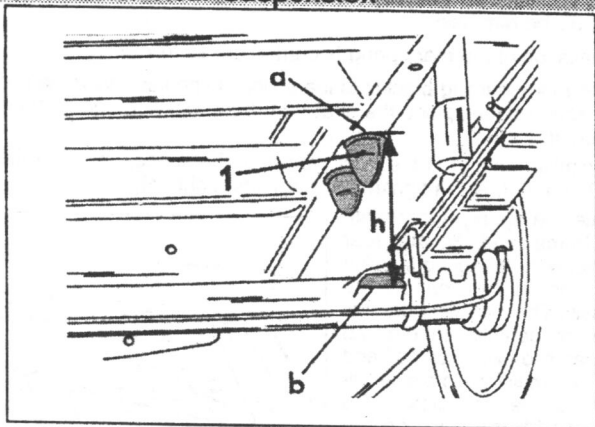

Fig. 7.6. — The rebound rubber (1) is used to measure the height of the rear axle when tightening the springs. Measure between points "a" and "b".
- The rear suspension must now be weighted down to tighten the front and rear of the spring with the correct load. Place enough weight into the rear of the vehicle until the dimension "h" in Fig. 7.6, between the contact area "a" for the rebound rubber (1) and the stop "b" is exactly 107 mm. With the vehicle resting on its wheels this will of course be rather difficult, compared to carrying out the measurement when the vehicle is on a ramp.
- The rear suspension must now be loaded down as described during the installation of the rear springs. Refer to Page 133 and Fig. 7.6.